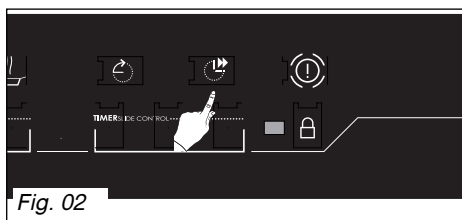

Fig. 02
– Set the time either using the timer slider or the “RECOMMENDED” timer touch control. A **t** flashes with the time selected (Fig. 02).